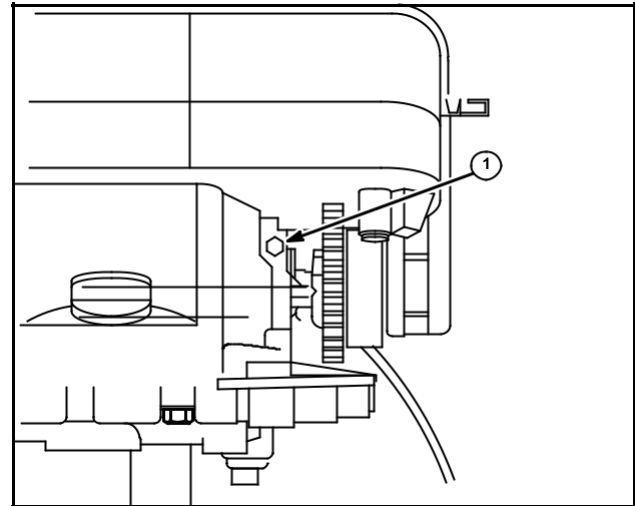

Fig. 22
1. Loosen starter mounting screw (1) and remove starter, Fig. 22.